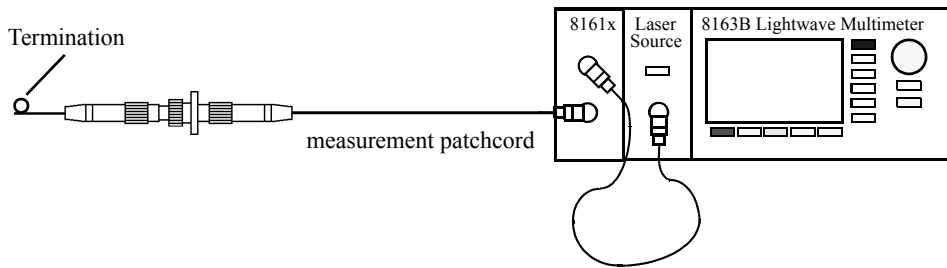

Figure 120 Measuring the Return Loss of the DUT (in this example: a Connector Pair)
- 1 Attach the DUT to the measurement patchcord. In the example shown in Figure 120 on page -198, the DUT is a connector pair.